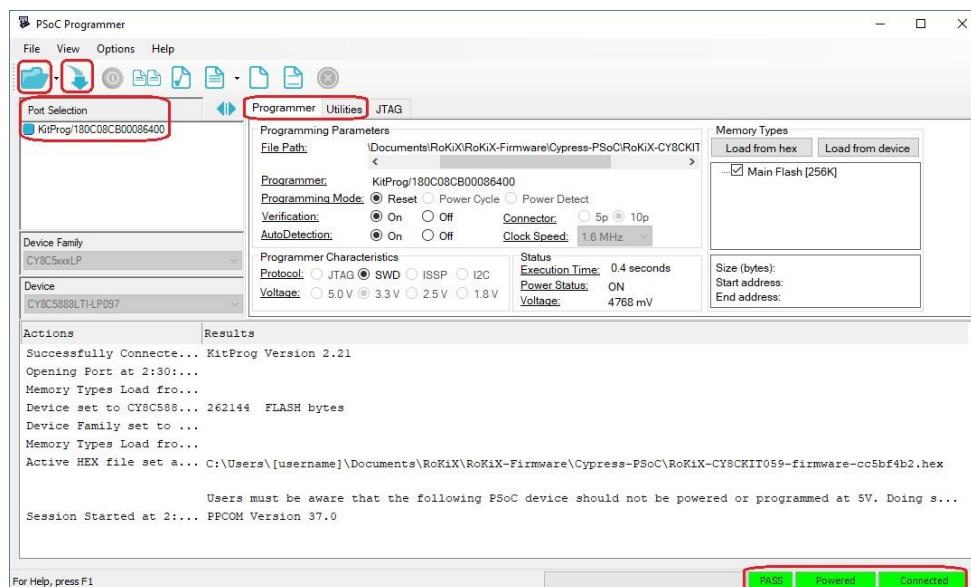

Figure 22. PSoC Programmer GUI
- Open the PSoC Programmer application on your computer. Once opened, verify that Powered and Connected status messages are displayed in the status bar – the bottom right side of the window (Figure 22). If not, please verify the CY8CKIT-059 Prototyping Kit is properly plugged into the USB port.
- Next, select the firmware hex file mentioned in the step 2 by either pressing the Open Folder button or through the menu (File>File Load) or by pressing the F4 key (Figure 22).
- Next, flash the firmware on the CY8CKIT-059 Prototyping Kit by pressing the Down Arrow button or through the menu (File>Program) or by pressing the F5 key. (Figure 22)